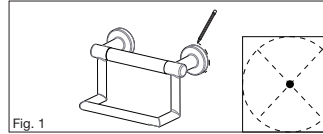

Fig. 1
- Use a pencil and mark the centers on each side of the product for the mounting locations. (Fig. 1)